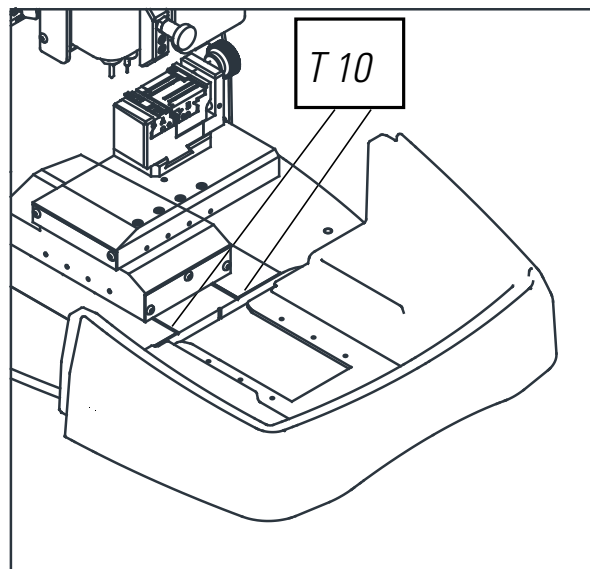

FIG. 23
- 3) Re-introduce the tray taking it to the bottom following the two lines (T10) marked in black on the chassis (Fig. 23)